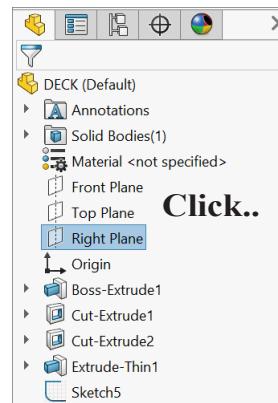

Fig. 38
Step 10. Click **Right Plane**  in the Feature Manager to select plane, **Fig. 38**.